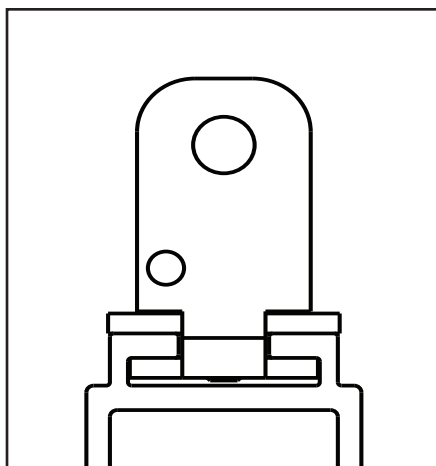

Figure 3-140
- Step 3. Loosen (2) M8 x 20mm HHCS mounting U-bracket bolts and slide rail mounting bracket on top of bracket channel and tap plate into bracket channel at top of TR2000 side rail. Repeat for each hanger as needed. Position hangers on side TR2000 rail per system layout. Leave U-brackets loose to allow for adjustments if needed later in the installation process. See Figure 3-140.